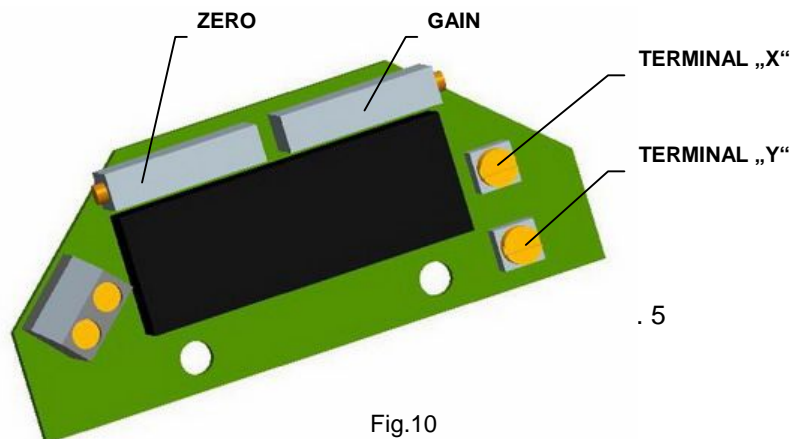

Fig.10
4.6.1 EPV – the 2-wire version (Fig. 10)
- Adjust the resistive transmitter according to the previous chapter. The resistance is to be metered on the terminals X-Y (Fig. 10). The used transmitter resistance is 100 Ω.
- Turn the adjusting trimmer ZERO (Fig. 10) to adjust the output current signal rate measured on the terminals 81-82 to 4mA.
- Turn the adjusting trimmer GAIN (Fig. 10) to adjust the output current signal rate measured on the terminals 81-82 to 20mA.